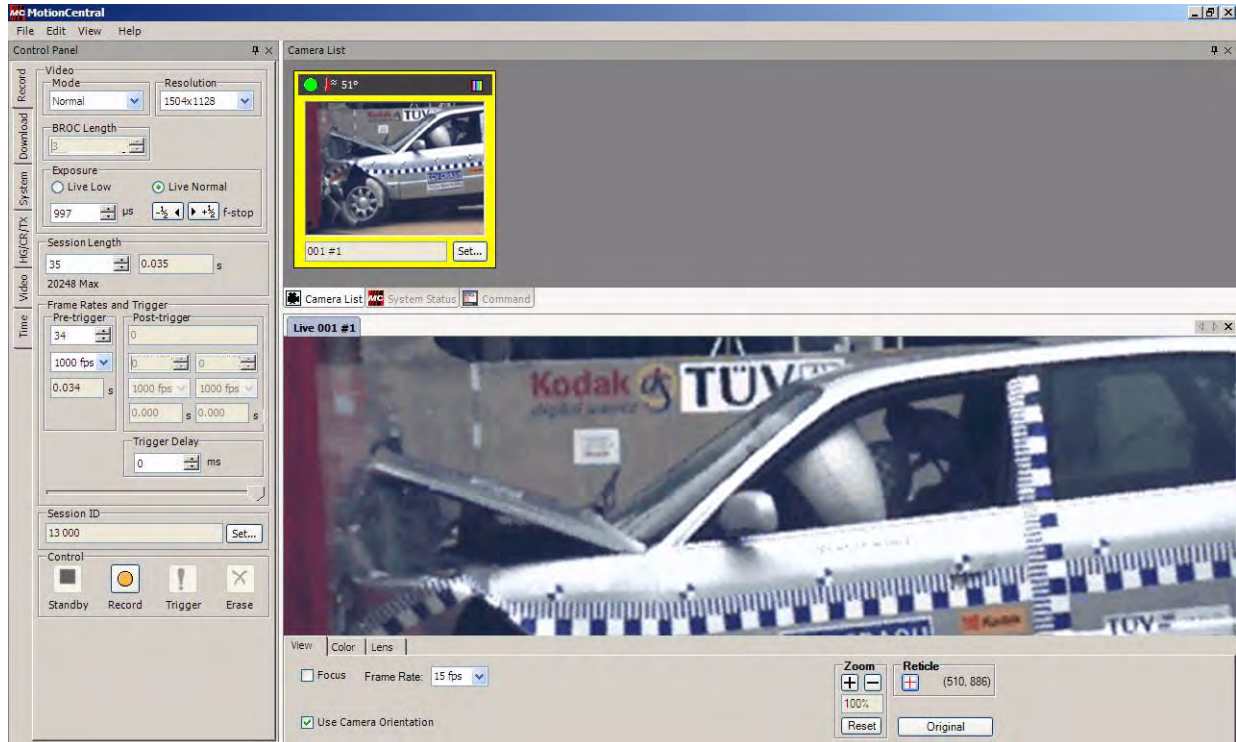

Figure 12.1: Live Image
1. In the Camera List, double-click on the thumbnail image. This will start a live image in the View window. See Figure 12.1.